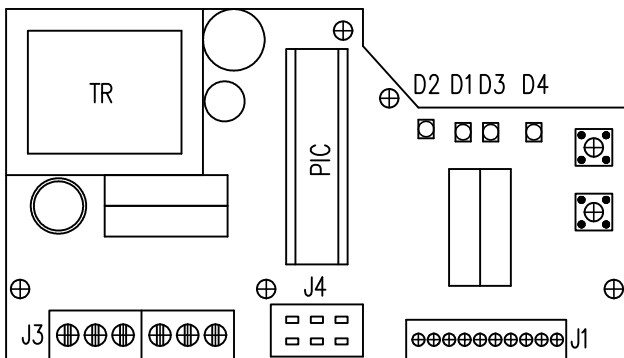

Fig. 10
3.6 Adjustment of position controller (Fig. 10)
Laying of adjusters and signalling elements on the board of the REGADA controller is shown on Fig. 10: